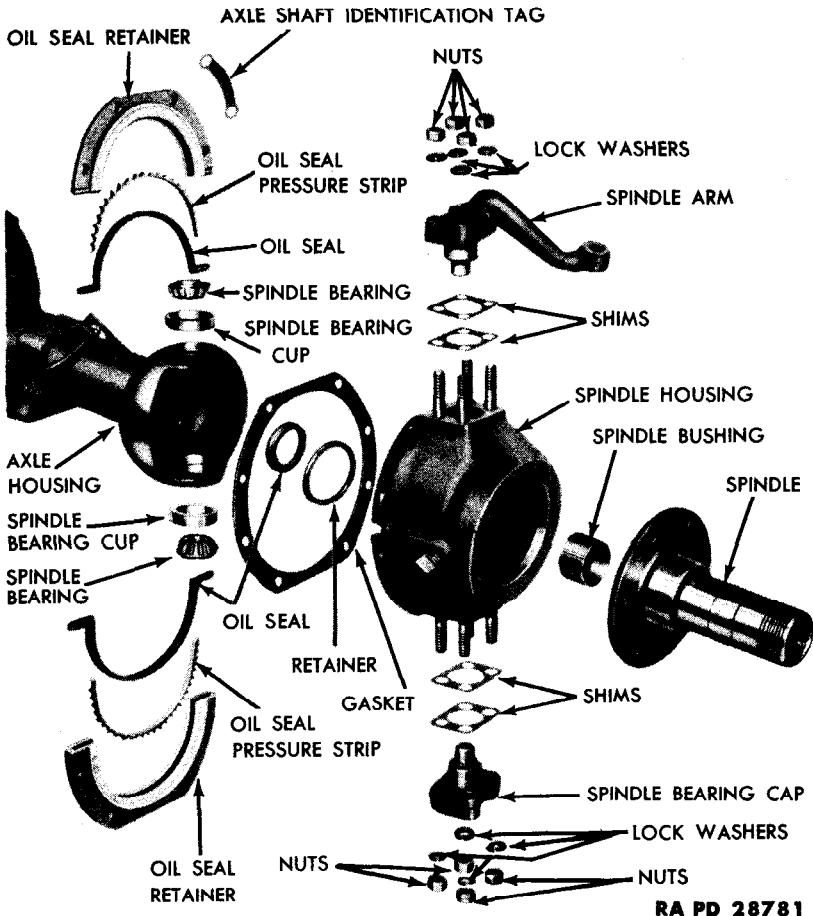

Figure 76 — Spindle Housing — Exploded View
(7) SPINDLE HOUSING AND SPINDLE (fig. 76).
n. **Install Spindle Housing (fig. 76).** Dip the two spindle housing bearings in grease. Place the bearings in the bearing cups on the axle housing. Place the spindle housing on the axle housing with the grease plug to the rear of the vehicle. Install shims totaling 0.048 inch thick on the spindle bearing cap and the spindle arm. Shims are available in thicknesses of 0.003 inch, 0.005 inch, 0.010 inch and 0.030 inch. Install one of each size on the top and bottom of the spindle housing. Place the lower bearing cap on the spindle housing and install the four nuts that secure the cap to the spindle housing. Place the spindle arm on the spindle housing and install the four nuts that secure the spindle arm to the spindle housing.
p. **Install Spindle Housing Oil Seal (fig. 76).** Place a new gasket on the spindle housing. Place the upper and lower halves of the oil seal on the spindle housing. Install the four cap screws that secure the lower half of the oil seal to the spindle housing. Place the axle